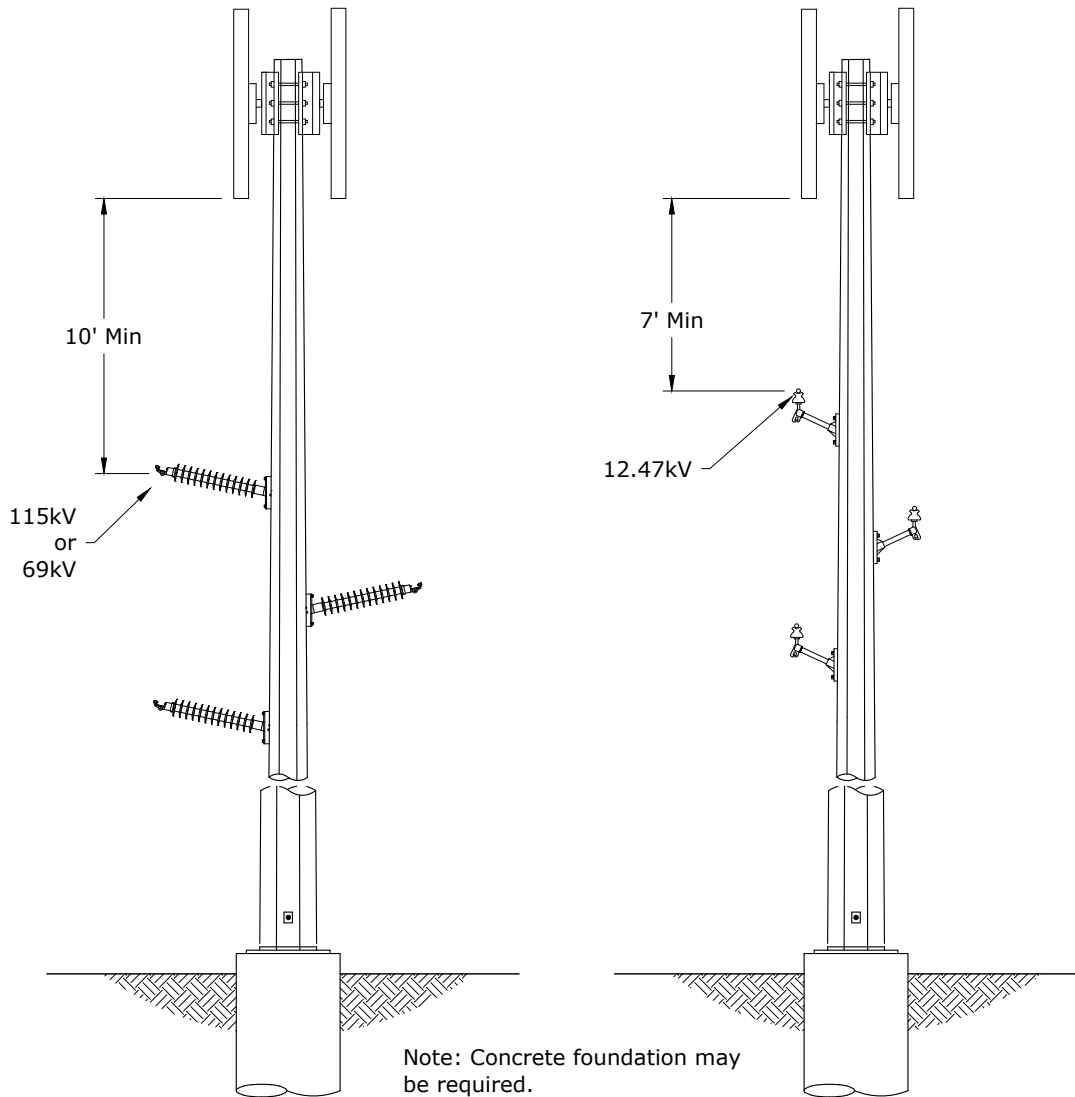

Figure 1: Macrocell clearances.
- A. The minimum clearance from distribution or transmission to the antenna is shown in Figure 1.